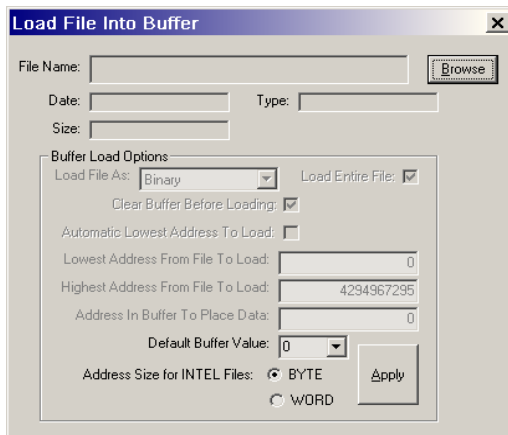

Figure 1-6. Load File Into Buffer Dialog Box
2. **Load File into Buffer.** Click the **Open** button and click the **Browse** button and select a programming file. Confirm the file information and click **OK** to continue. See Figure 1-6.